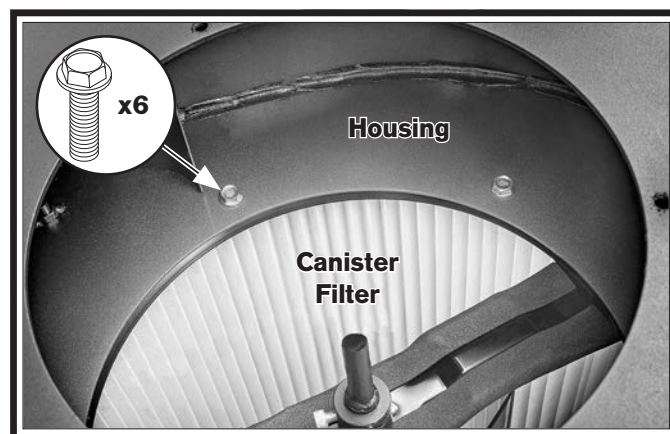

Figure 21. Canister filter attached to housing.
26. While assistant holds canister filter under housing assembly, attach canister filter to housing with (6) $\frac{5}{16}$ "-18 x $\frac{1}{2}$ " flange bolts (see **Figure 21**).